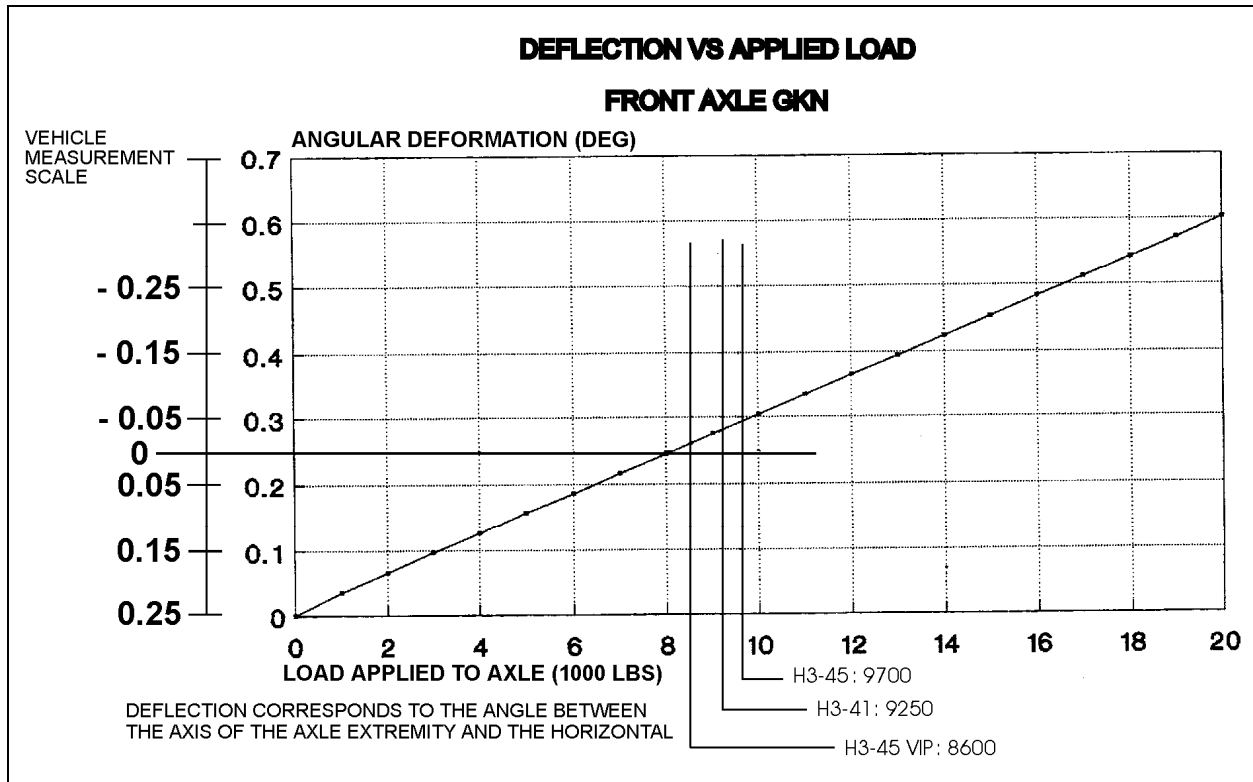

FIGURE 6 : DEFLECTION VERSUS APPLIED LOAD
- FIGURE 6: TAG AXLE ALIGNMENT.....11-6